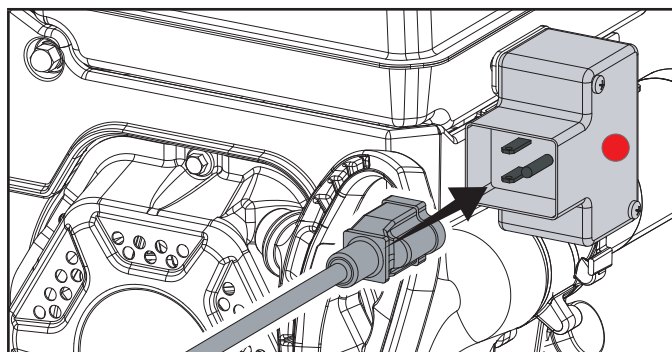

Figure 13
5. Alternatively, for electric start, plug in the supplied electrical cord into the starter. Press the electric start button and make sure that the mains supply voltage is 120 V~ 60 Hz (Fig. 13).